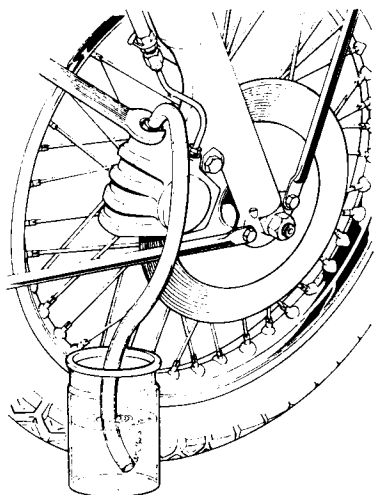

Fig. H17 Bleeding disc brake hydraulic system
- 13 Slacken the bleed nipple one full turn and connect with a suitable bleed tube to a clean container (see Fig. H17).